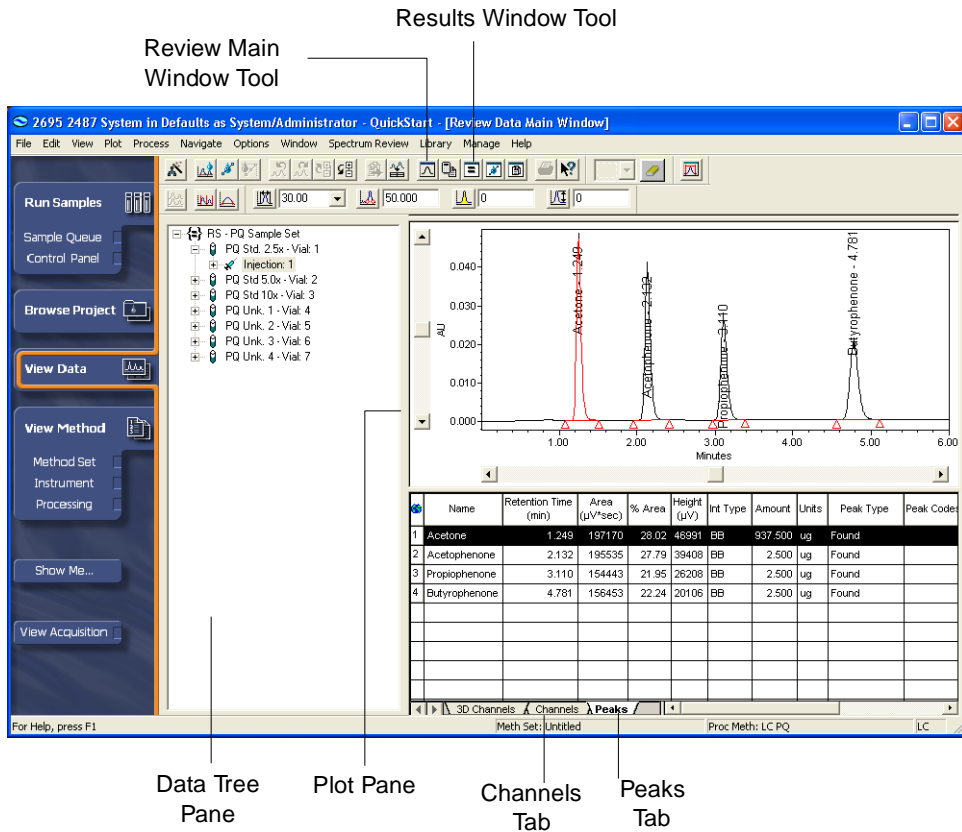

Figure 7-2 Review Main Window with Chromatogram of Std1
2. Click the result set, then click  (Review). The Review Data Main window appears and displays the daughter window that was last viewed (Figure 7-2).
4. The Data tree pane lists unknowns and standards that are part of the result set (Figure 7-2). To view the chromatogram of an unknown or standard: